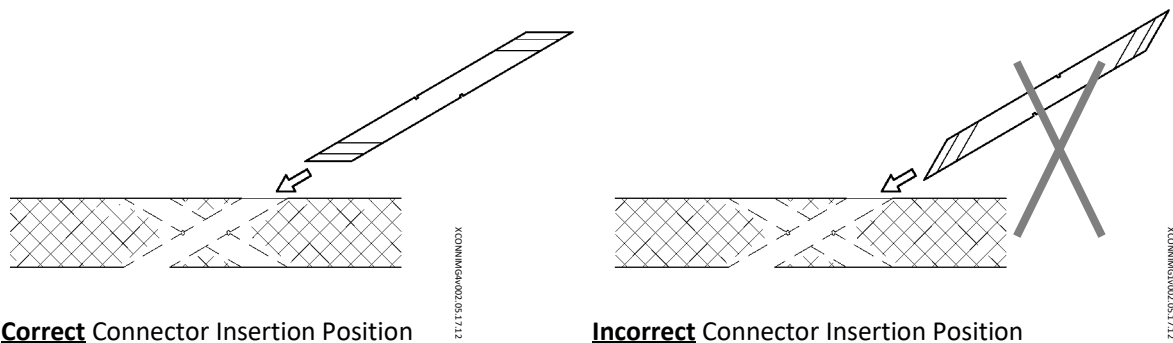

Figure 2 - Be sure ties are inserted in the correct position as shown. The sharp edge must never be inserted downward.
- A. Through one of the slots in the top of a LB located from step 3 above, insert tie as shown in **Figure 2**. Ties should be inserted with the flat, cut edge parallel to the top face of the insulation and parallel to the face concrete. The angled edge of the tie should never point downward as shown in the graphic below right.